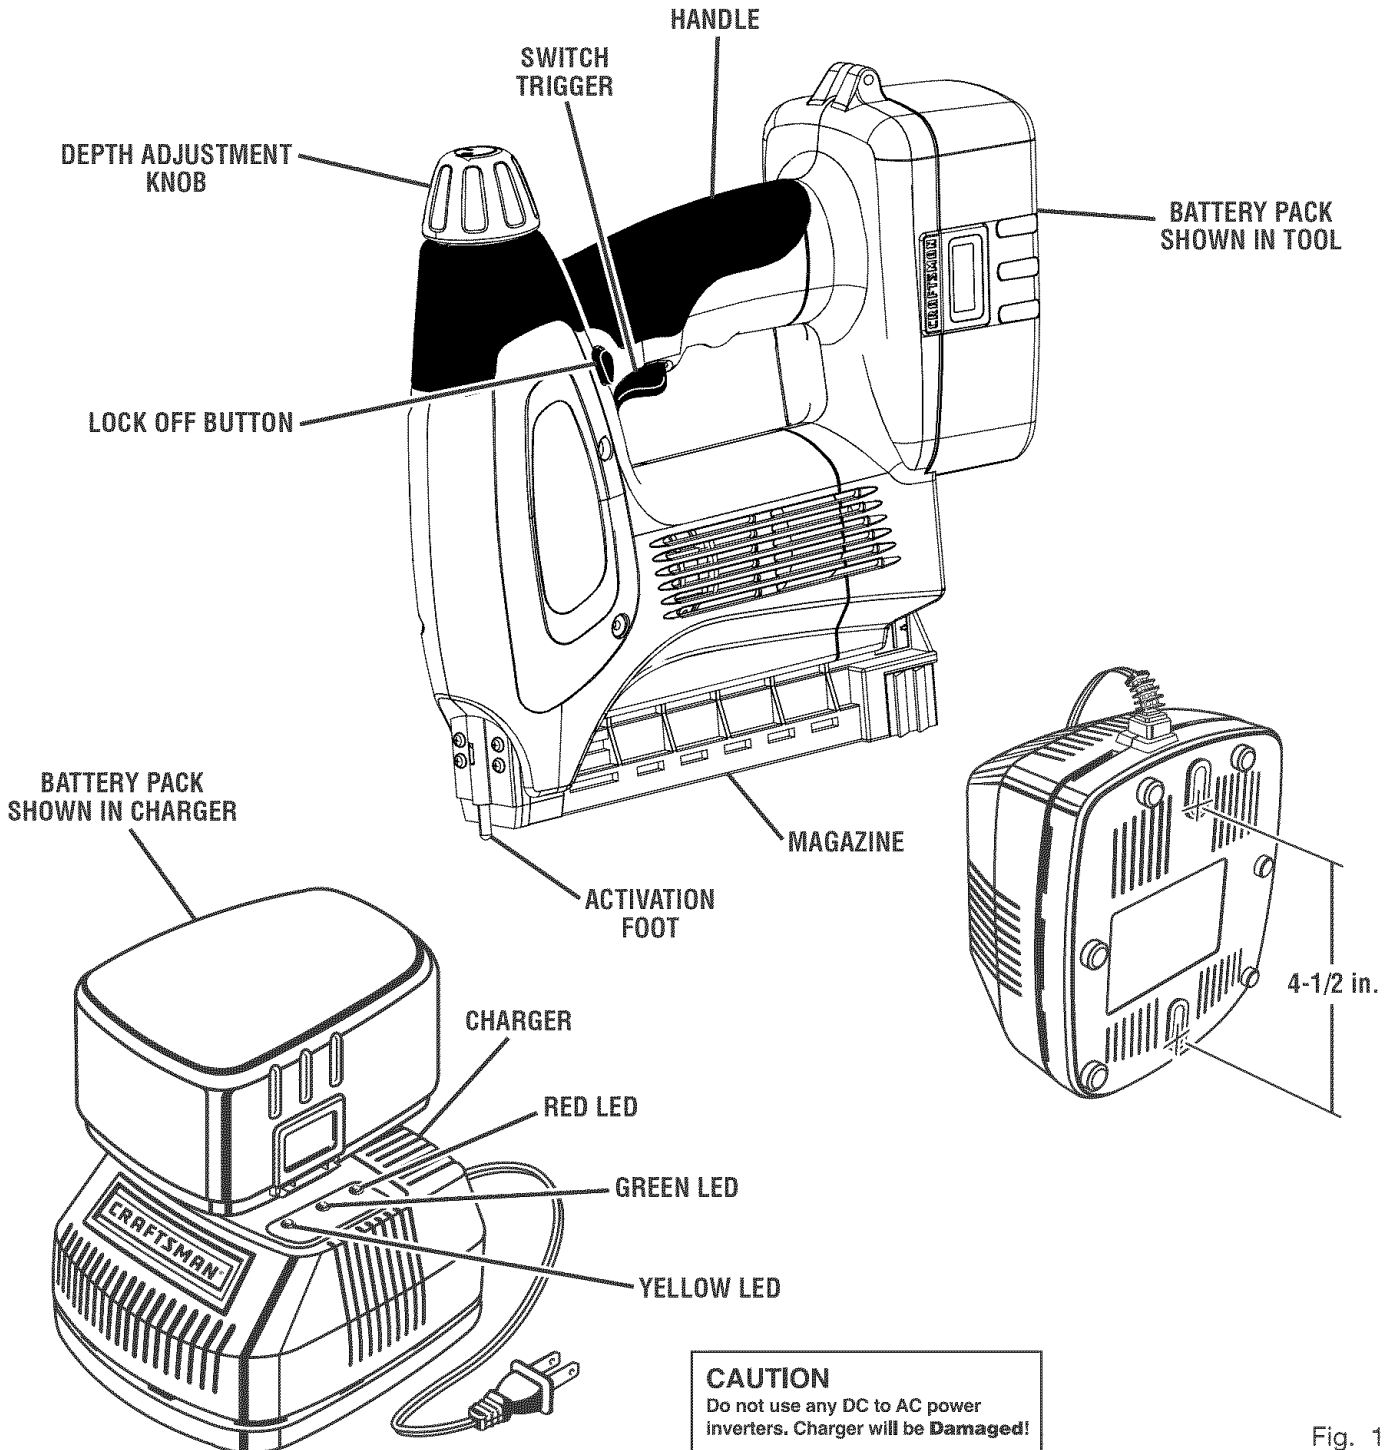

Fig. 1
See Figure 1.
- Place the battery pack in the charger aligning raised rib on the battery pack with the groove in the charger. See *Figure 1.*